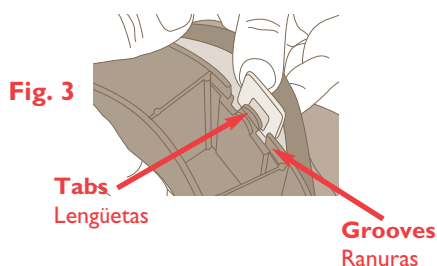

Fig. 3
Step 6. Pull tabs over groove. You may have to push tabs from top of walker to properly fasten (Figure 3).